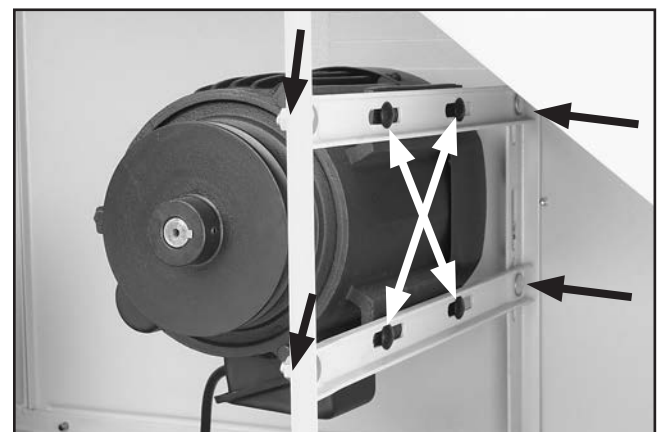

Figure 9. Motor bracket fasteners (black arrows); motor mount fasteners (white arrows).
8. Using a 13mm wrench, loosen the motor bracket fasteners shown in **Figure 9**.
12. Remove the V-belt and loosen the motor mount fasteners (see **Figure 9**).